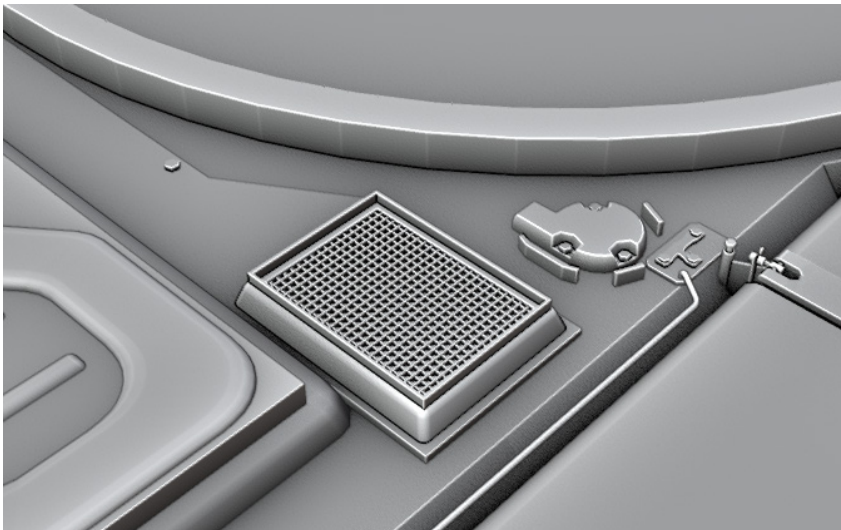

Figure 8.57 – More fine details
*Figure 8.57* shows another angle, with a smaller exhaust grill and some more fine details.